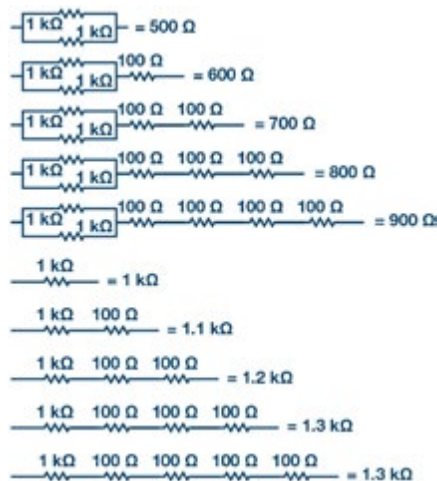

Figure 8: RL configurations.
$R_L =$ combinations of $1 \text{ k}\Omega$ and $100 \text{ }\Omega$ resistors (Figure 8)
c) To find the value of R_L for which maximum power is transferred, vary the load resistance by constructing series/parallel combinations of $1 \text{ k}\Omega$ and $100 \text{ }\Omega$ for R_L between $500 \text{ }\Omega$ to $1400 \text{ }\Omega$ in $100 \text{ }\Omega$ steps, as shown in Figure 8. For each value of R_L , write down V_L .